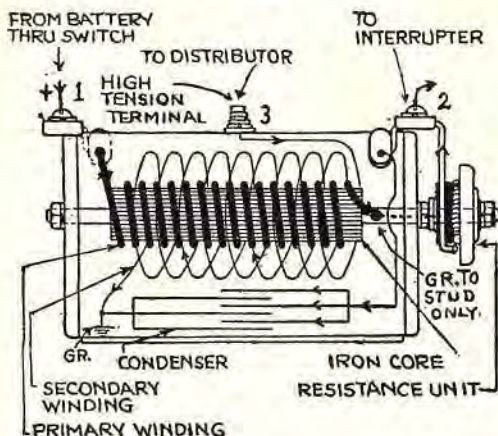
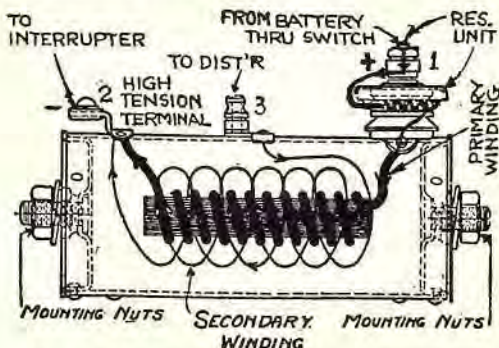

Fig. 1. Delco model "2158," ignition coil with condenser in coil.
Fig. 2. Delco model "2159," ignition coil. Condenser is not in coil.
Note: The most popular types of Delco coils are 2159 (Fig. 2 below) and 2178 (see Nash, page 402) and the 2176 used on the Buick-six (1923) which is similar to 2178. These coils do not have condensers. The condenser is on the interrupter plate. The internal connections of these coils are the same as in 2159, Fig. 2.
Figs. 1 and 2 show the internal circuits in typical coils. Note in Fig. 1, that the resistance unit is mounted on the right end of the coil and in Fig. 2, it is on top at the right end.
In Fig. 1, note the condenser in the coil which is connected across the interrupter points, one end of
In Fig. 2, the condenser is not in this coil. It is located in the interrupter housing, either inside or outside, and is connected across the interrupter points (P). (This is the coil used on the Buick.)